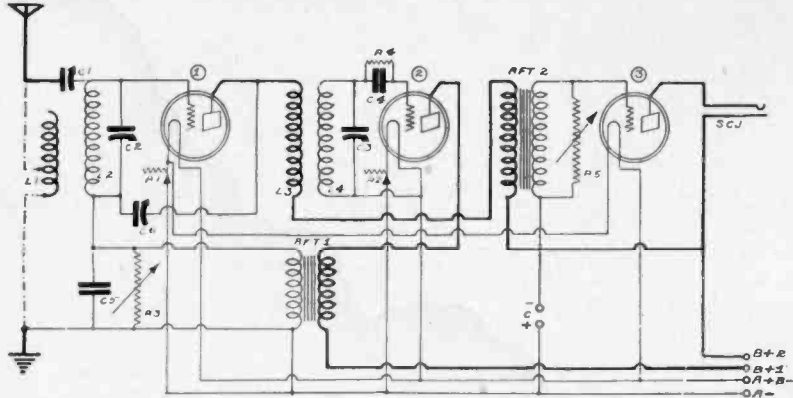
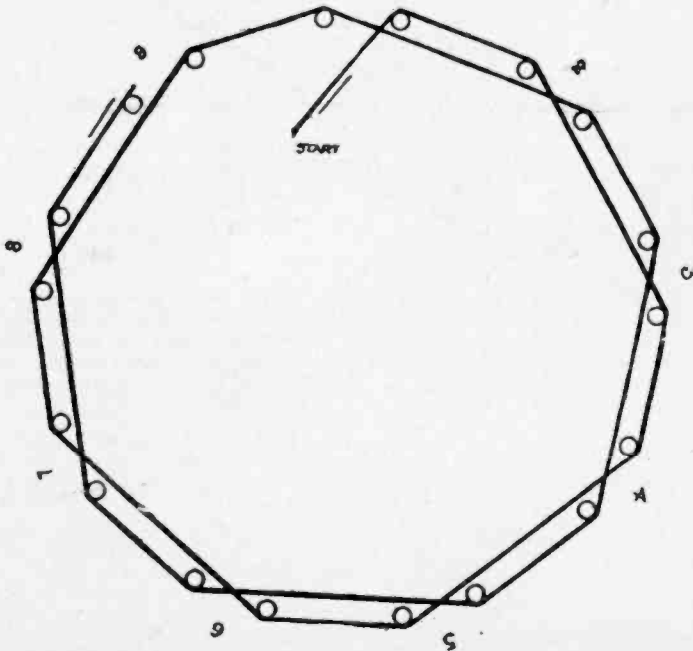

FIG. 525
FIG. 526
(1)—The circuit diagram of such a receiver is shown in Fig. 525. The antenna circuit is so wired that either the midget .00005 mfd. variable condenser can be used to couple the antenna to the grid-filament circuit of the first tube, or that the primary winding L1, which is wound with the secondary L2 can be used to couple this circuit to the antenna circuit. The .0005 mfd. variable condensers C2 and C3 are used to tune the secondary circuits of both coils. The primary L1 consists of fifteen turns, tapped at the fifth and tenth turn. The secondary L2 consists of forty-four turns. The secondary L4 consists of the same number of turns. The primary L3 consists of ten turns. The primaries are first wound on the form. The secondary immediately follows. Leave about two inches of wire out at the beginning and the end of each winding. Place a piece of gummed cloth over each of the leads, and mark as to beginning or end. The exact manner of winding is shown diagrammatically in Fig. 526. It will be noted that the wire is brought over two dowel sticks, then under to, and so on. Make these loops as tightly as possible. After you have concluded one complete form, take the dowel sticks out, slowly and carefully. Then bring some cotton through the spaces, left by the absence of the dowels, and tie for the purpose of holding. Now procure a dowel stick, which is about three feet long. Cut up into 4 equal sections. Use two for each coil, one directly opposite the other. You will find that by pushing the dowels so that at one end the top of the dowel is even with the top of the coil, a small portion will protrude at the other end. These ends are placed in small holes drilled in the baseboard. Either transformer can be used in the reflex stage or in the straight audio stage. The variable high resistances are shunted across the secondary windings of the audio transformers. The other .000005 mfd. variable